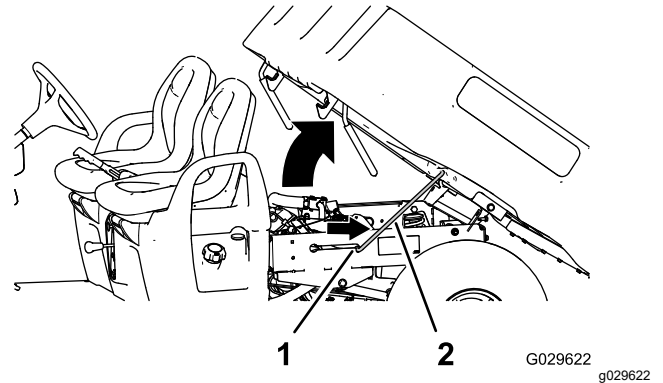

Figure 2
5. Pull the prop rod into the detent slot to secure the bed (Figure 2).